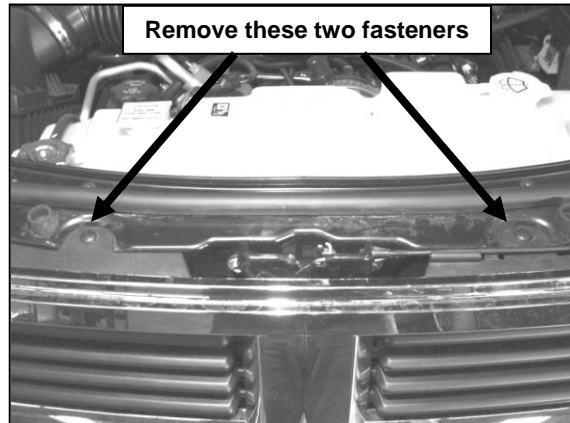

Figure 4
6. Open the hood and remove the two existing Phillips plastic fasteners holding the factory grille shell (Figure 4).